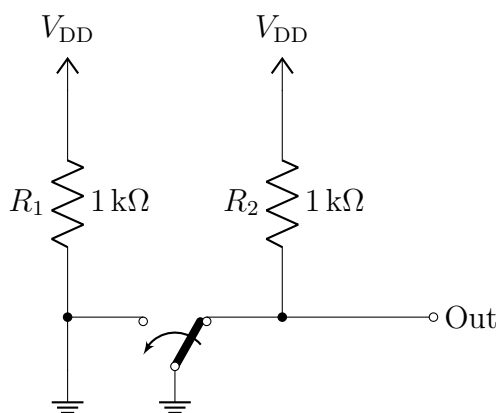

Figure 7: Simple Double-Pole Single-Throw (DPST) Switch
2. Construct the circuit shown in Figure 7 and power it with +5 V.